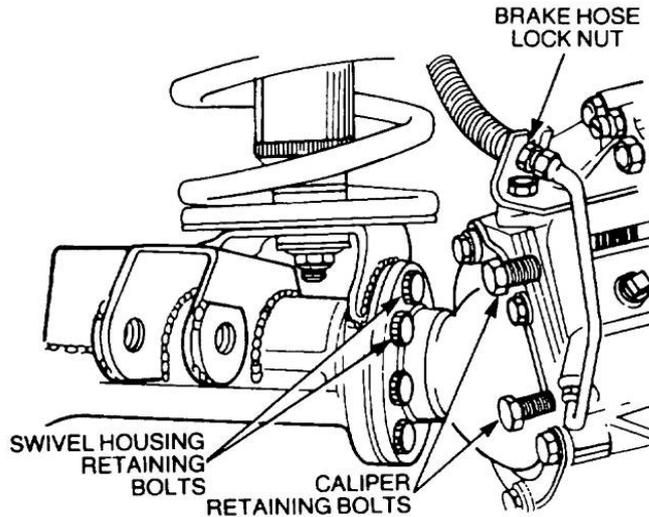

Figure 110 Removal of the Brake Calliper
- j.** Slacken the nut securing the brake hose to the retaining bracket (Figure 110).